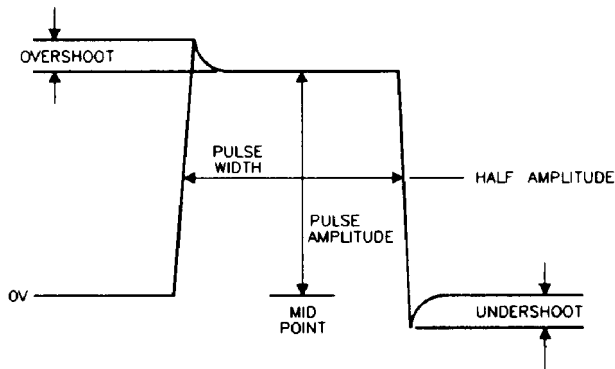

Figure 3-1
6. Verify the Pulse in Figure 3-1 meets the following criteria: